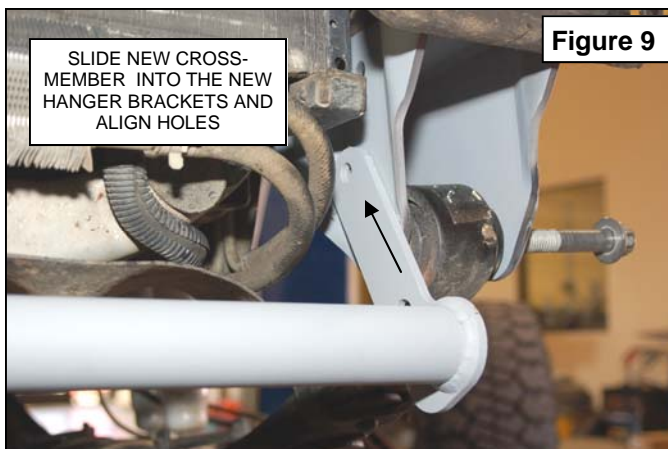

Figure 9
13. Raise the axle to align the hole with the leaf spring and new Rough Country hanger bracket and use factory hardware to install the spring in the mount and the new cross-member. **See Figure 9.**